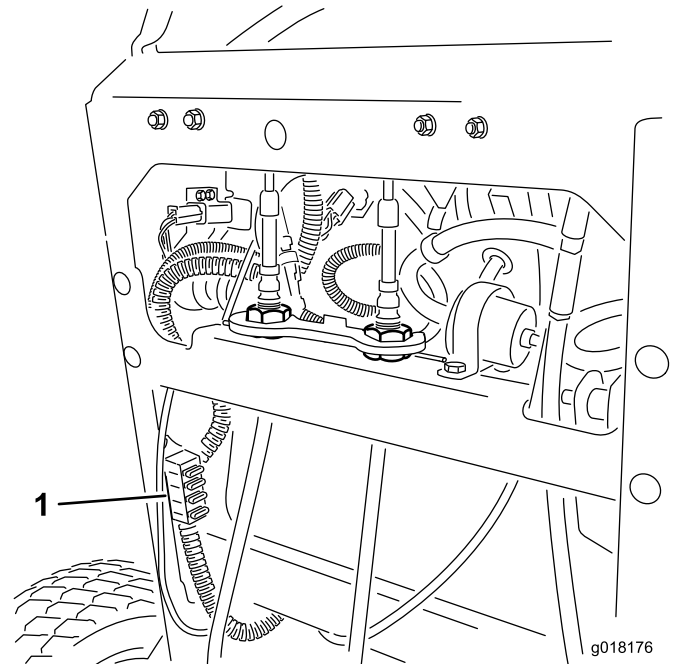

Figure 52
2. Pull out on the fuse to remove or replace it (Figure 52).
Note: Ensure the correct size fuse is installed (Figure 52).